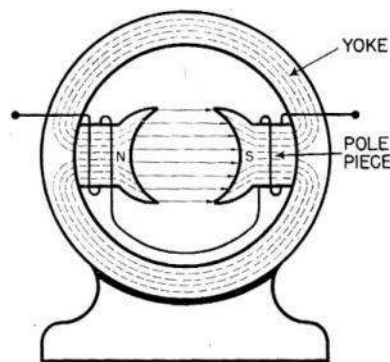

Figure.1.7. Construction of Magnetic frame and Yoke.
1.3.1.1. Magnetic Frame and Yoke. The outer hollow cylindrical frame to which main poles and inter-poles are fixed and by means of which the machine is fixed to the foundation is known as Yoke. It is made of cast steel or rolled steel for the large machines and for the smaller size machine the yoke is generally made of cast iron. The yoke supports the pole cores and provides mechanical protection to the inner parts of the machines. It also provides a low reluctance path for the magnetic flux. The magnetic frame and yoke are shown in the figure 1.7.